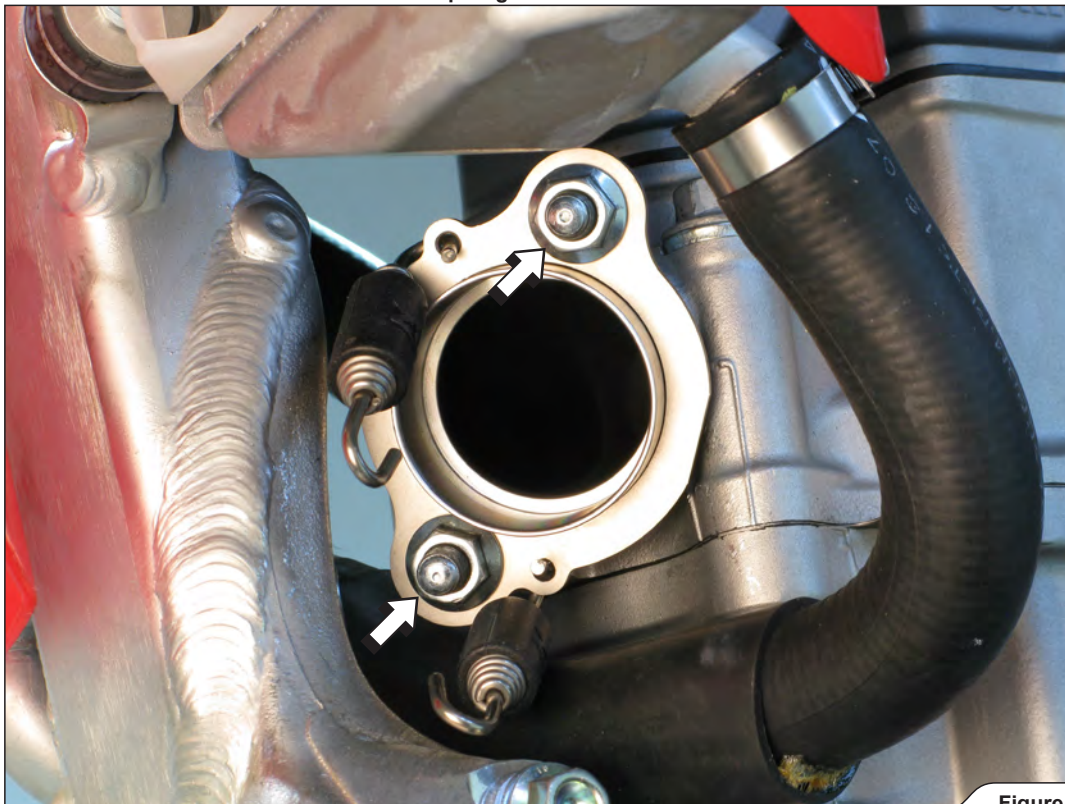

Figure 9
2. Set up and hand tighten the flange together with the springs and sleeve onto the cylinder head, using stock nuts; make sure you orient the flanges and springs as shown (Figure 9).